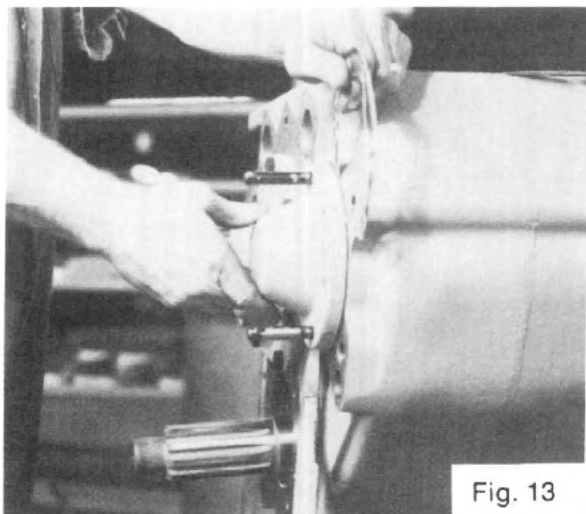

Fig. 13
7. Temporarily install the rear cap (See Fig. 13) in place with all six bolts, but with bolts tightened to 25 lbs. ft. torque. Measure gap between the case housing and the flange of the cap. Select a shim stack that is .010 to .015 larger than this dimension. Remove bolts and cap.